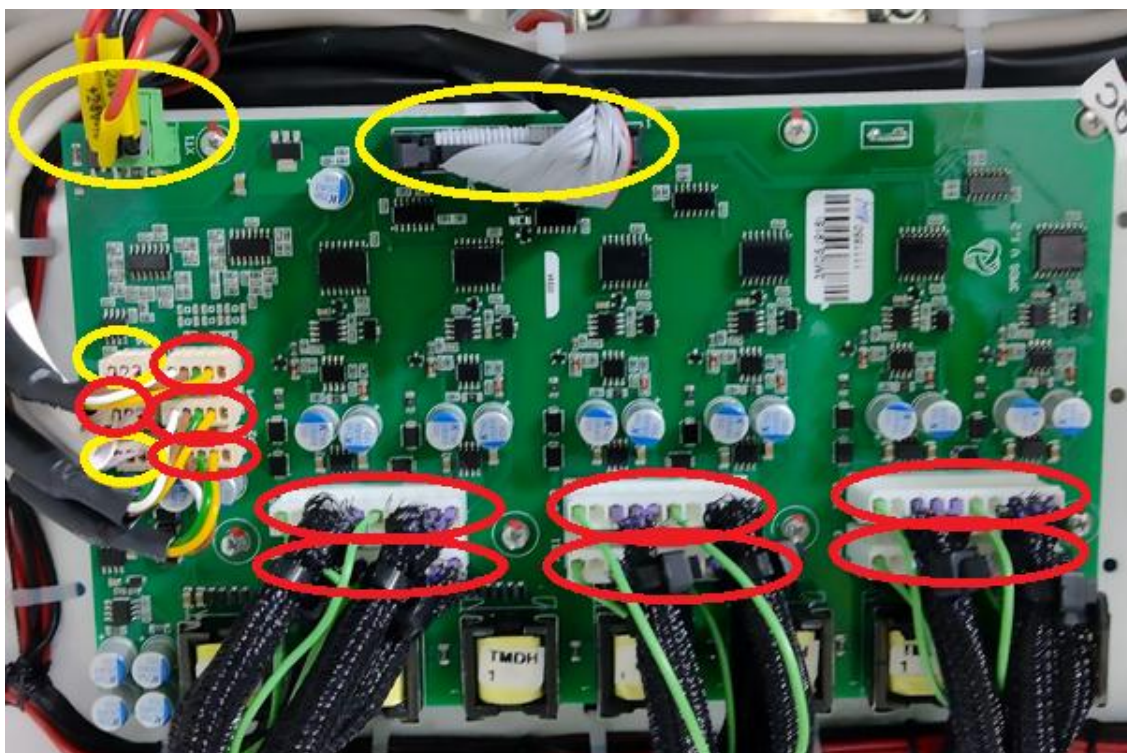

Figure 7 – Unplug and unscrew connectors of a 3MDS unit
2. Unplug signal connectors (yellow, red) from a terminal blocks which is shown at figure 7.